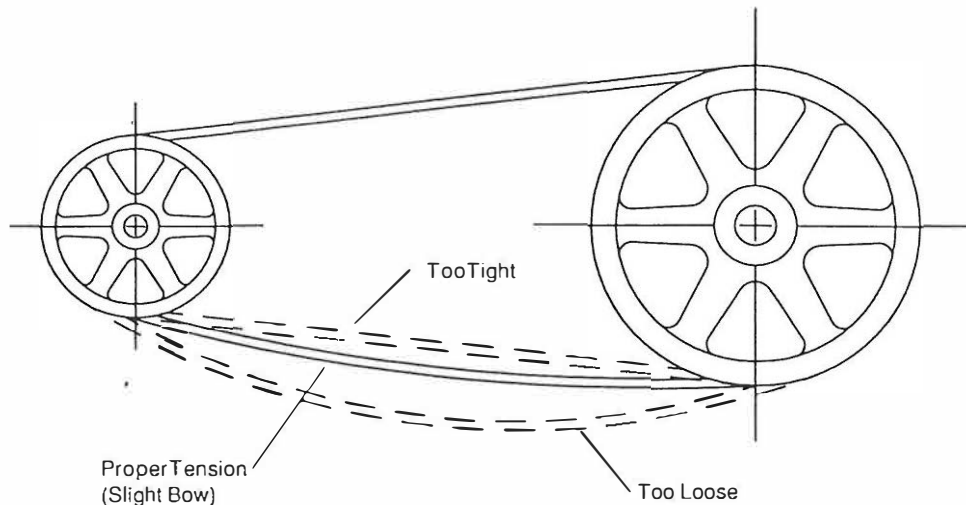

Fig. 4 Belt tension.
- (i) Shorten the center distance between the driven and driver sheave so the v-belts can be slipped into the sheave groove without damage. While the v-belts are still loose on the drive, rotate the drive until all the slack is on one side. Then increase the center distance until the v-belts are snug (Figure 4). NOTE: Never "roll" or "pry" the v-belts into the sheave grooves. This can damage the v-belt cords and lead to v-belt turnover, short life, or actual breakage. Moreover, it is both difficult and unsafe to install v-belts this way. Keptakeup rails, motor base, or other means of center distance adjustment free of dirt, rust, and grit. Lubricate adjusting screws and slide rails as required.